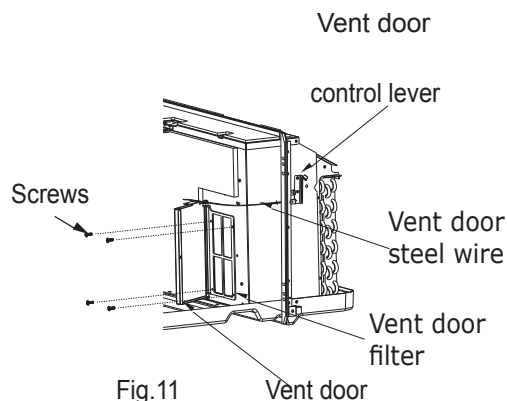

Fig.11
- Remove four screws from the vent door filter. (See Fig.11)
- First pull out vent door steel wire from the hole of the vent door, then take off the vent door and filter. (See Fig.11)